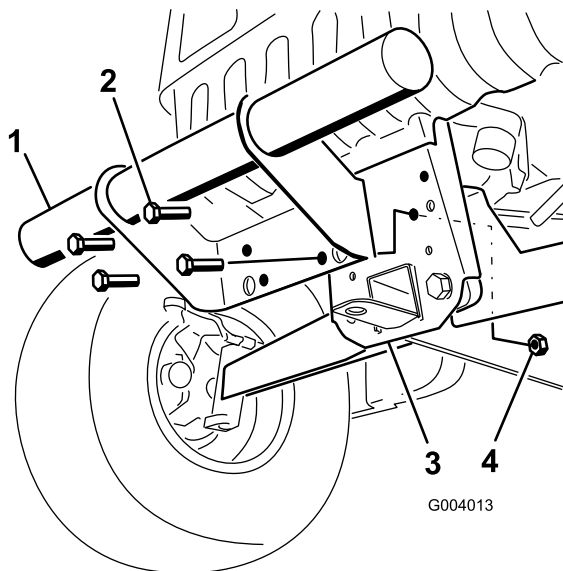

Figure 5
2. Align the mounting holes and secure the bumper to the frame with the fasteners previously removed (Figure 5).